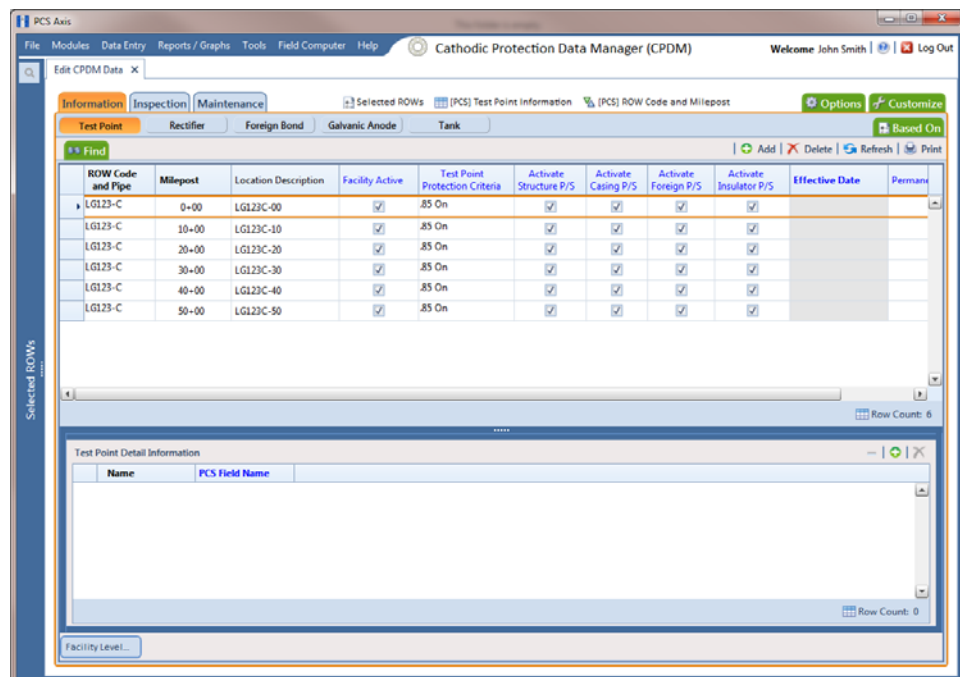

Figure 7-96. Test Point Detail Information
- 4 If the *Test Point Detail Information* mini-grid is not visible, double-click the **Test Point Det...** button  to open the mini-grid (Figure 7-96).